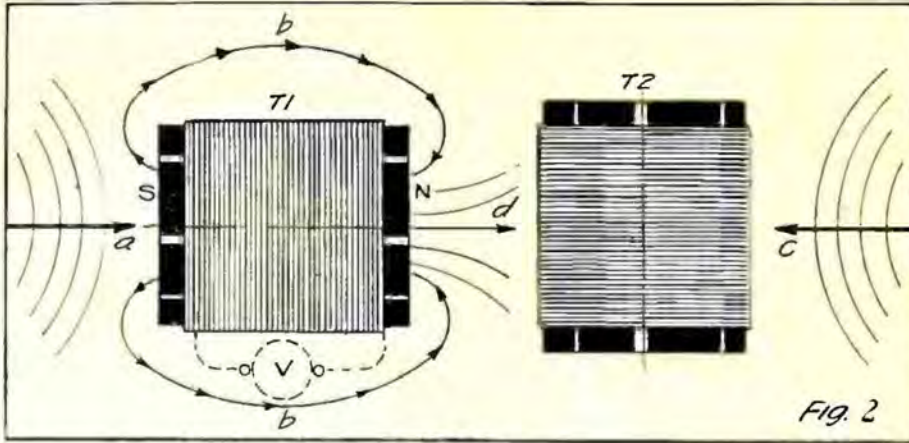

Fig. 2
In Fig. 2 the coils are turned at right angles, and if the magnetic lines were perfectly straight instead of being curved as shown, the transformer coil (T1) would not couple magnetically with coil (T2) for the field would pass along the wires and not cut across them. In the same way, a stray field (c) would not generate a current in coil (C), but a wave or field (a) passing along the axis will generate